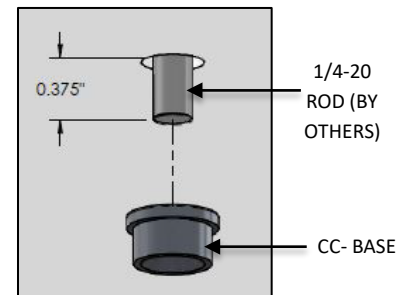

FIG. 25 - GRID CEILING INSTALLATION
6. Add a light thread locking compound to the 1/4-20 ROD (by others). Then thread CC-BASE to 1/4-20 ROD protruding through the ceiling material as shown in FIG. 25.